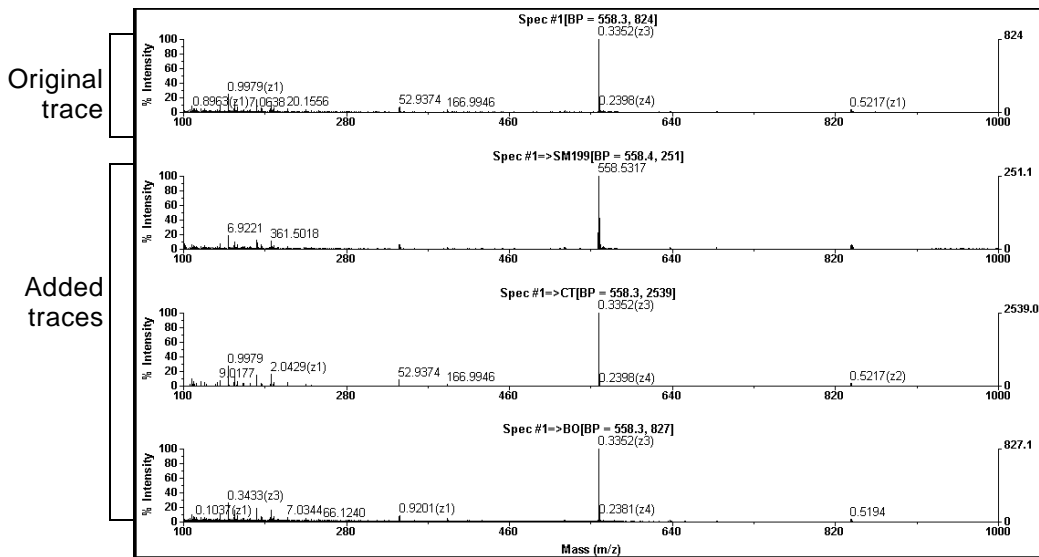

Figure 2-9 Added Traces Containing Data
When you perform a function that adds a new trace, the label of the trace changes from Not Used to the label for the type of trace created (Figure 2-9).
Figure 2-9 shows the original trace and three added traces that now contain a smoothed spectrum (SM), a centroided spectrum (CT), and a baseline offset spectrum (BO).